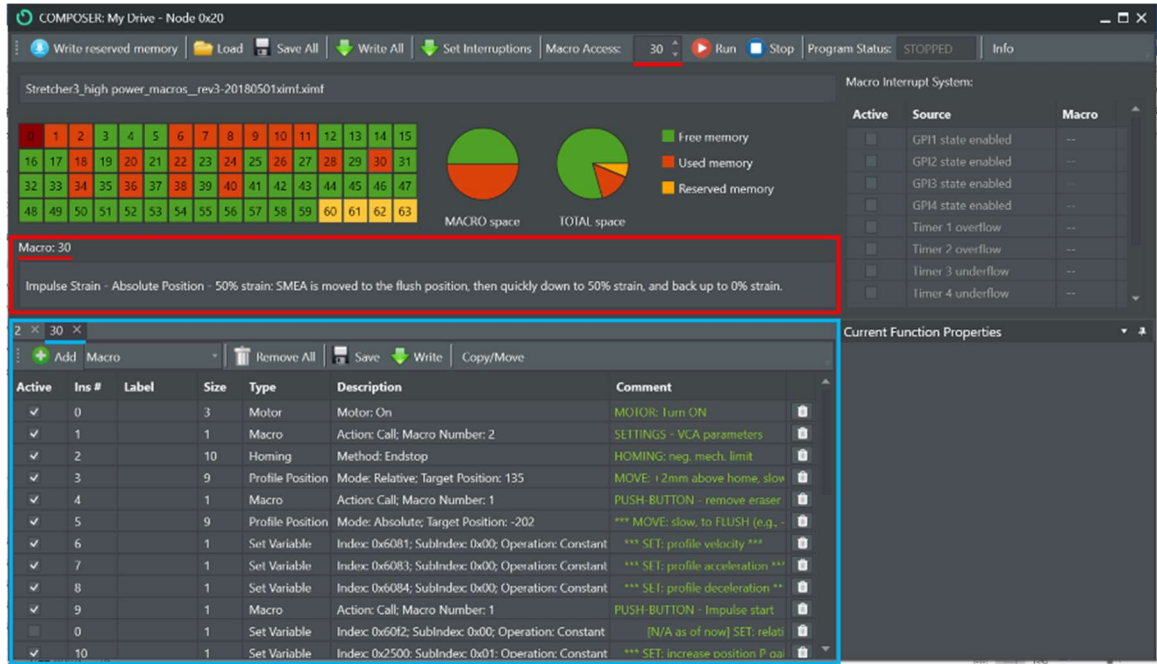

Fig. 60: Composer window with the macros description and commands highlighted.
4. You may then click on the macro of interest. See below for a screenshot when selecting Macro 30. A brief description of the function of the macro (red box in **Fig. 60** below) is provided, as well as the executable code (blue box). The underlines display which macro is currently active.